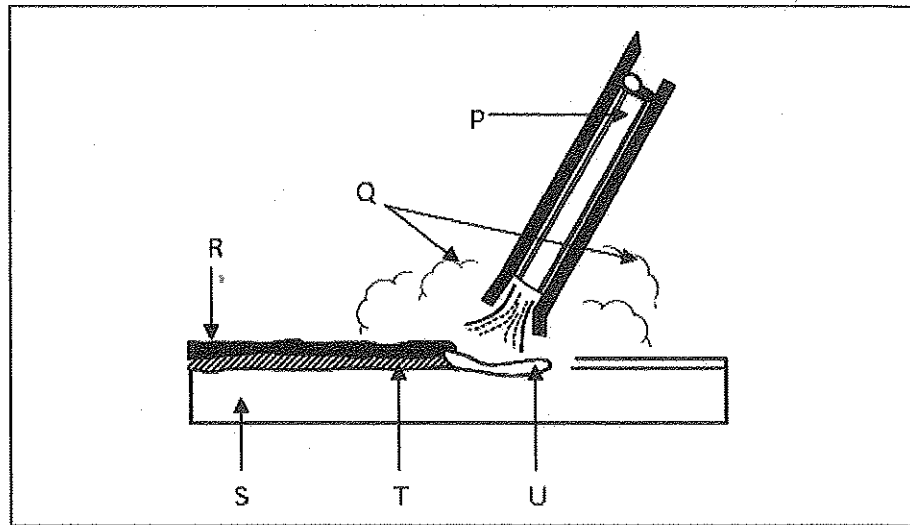

Figure 4 (a) / Rajah 4(a)
- (a) Name the component labelled P, Q, R, S, T and U as shown in Figure 4(a).